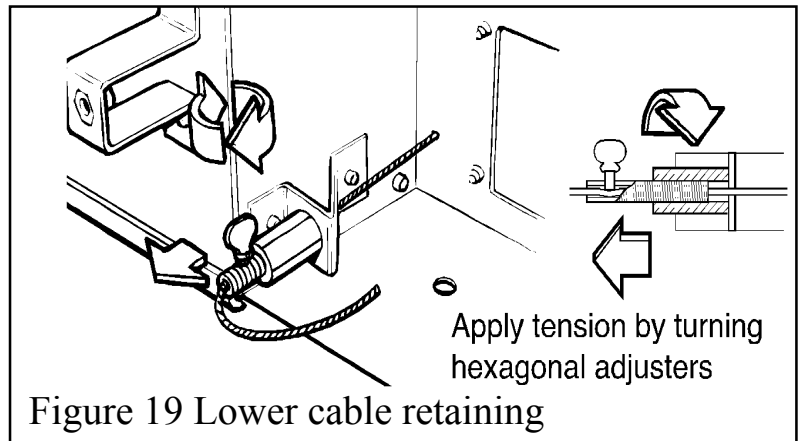

Figure 19 Lower cable retaining
- brackets. Tighten the screws in the retainers so that they clamp the cables in position. Apply tension to the cables by turning the hexagonal adjusters by hand. See figure 19.